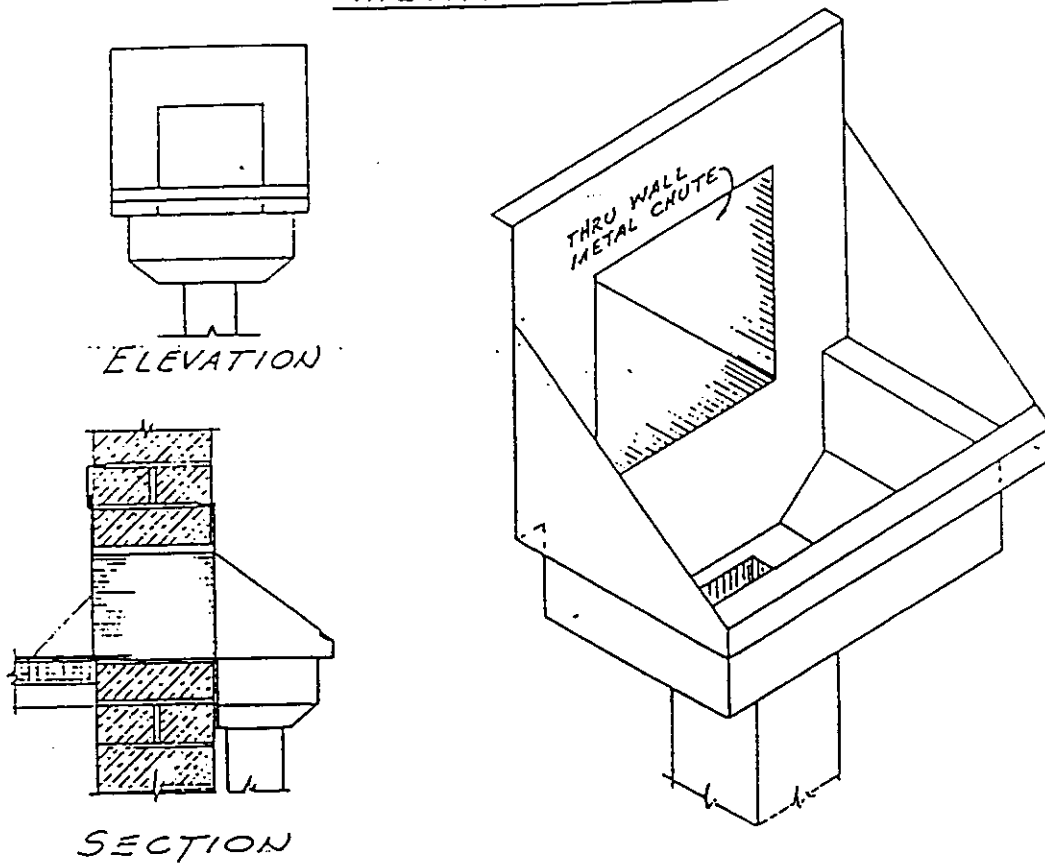

FIGURE 10\*
- J) "SCUPPERS" ARE SIMPLY HOLES IN THE PARAPET WALL TO ALLOW WATER TO FLOW OFF THE ROOF. THE HOLES ARE LINED WITH METAL, TILE OR PLASTIC SLEEVES TO PREVENT WATER FROM PENETRATING INTO THE WALLS. (SEE FIGURE 10)